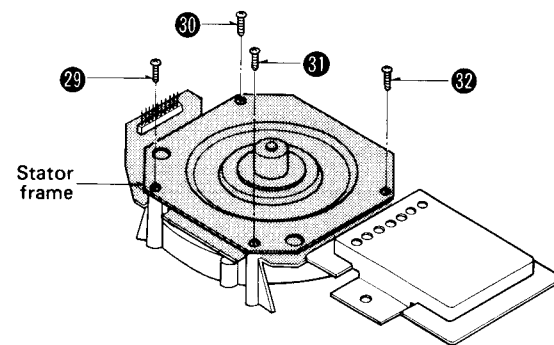

Fig. 4
2. Remove the stator frame setscrews ㉑ ~ ㉔. Then the stator frame can be removed. (Fig. 4)